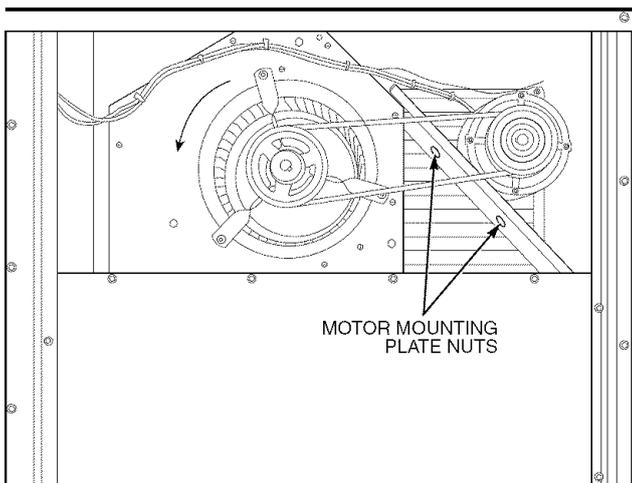

Fig. 44 — Typical Belt-Drive Motor Mounting for Sizes 008, 009
2. Loosen belt by loosening fan motor mounting nuts. See Fig. 44 and 45.
2. *Sizes 008, 009* — Slide motor mounting plate away from fan scroll for proper belt tension ($\frac{1}{2}$ -in. deflection with 8 to 10 lb of force) and tighten mounting nuts (see Fig. 44).